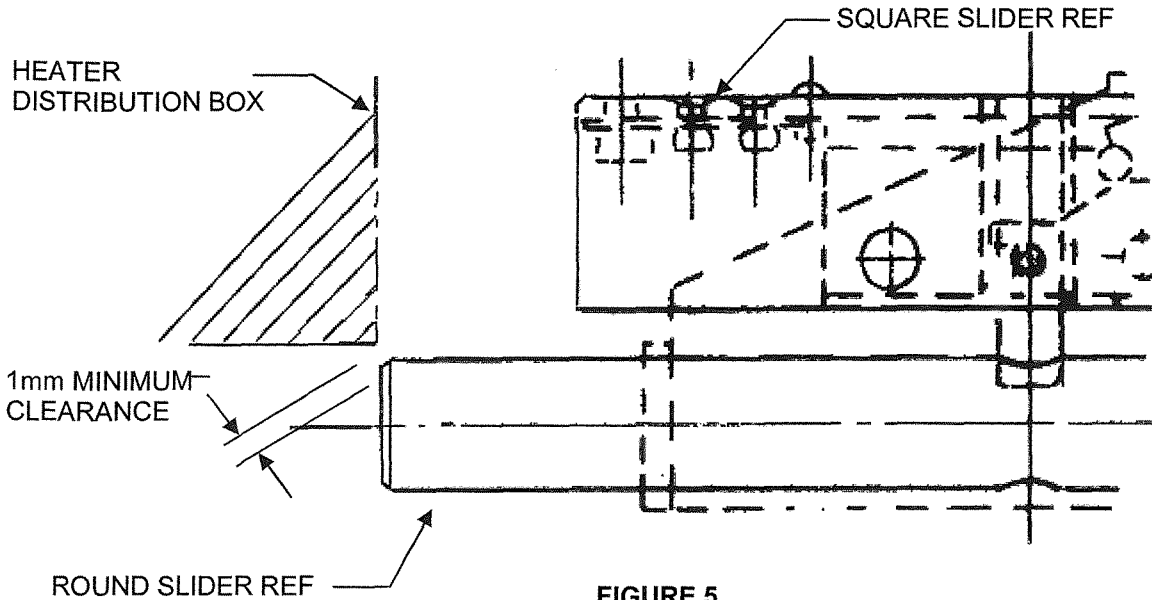

FIGURE 5
15. Ensure clearance of the no. 2 pedal slider to heater box clearance, is greater than 1mm, Figure 5 refers. Inform SACL if clearance is not achievable.